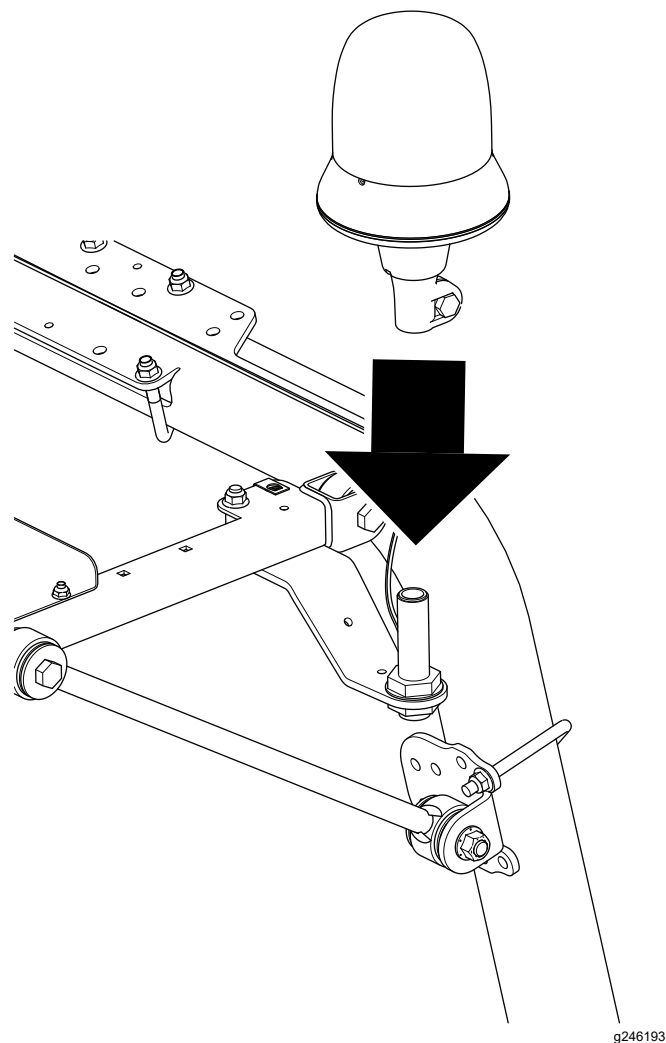

Figure 9
6. Install the beacon to the socket, and tighten the wing nut (Figure 9).